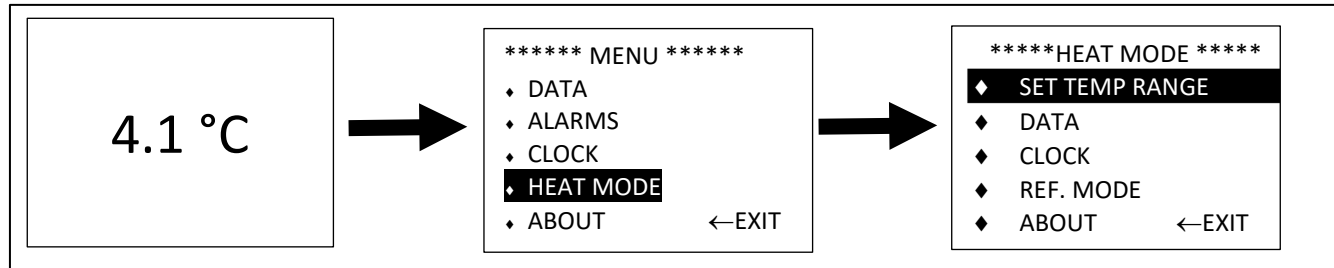

Figure 18: xFridge Heat Mode Access
- Press MENU/SELECT and use ▲ and ▼ to highlight “HEAT MODE”, then press MENU/SELECT as shown in Figure 18.